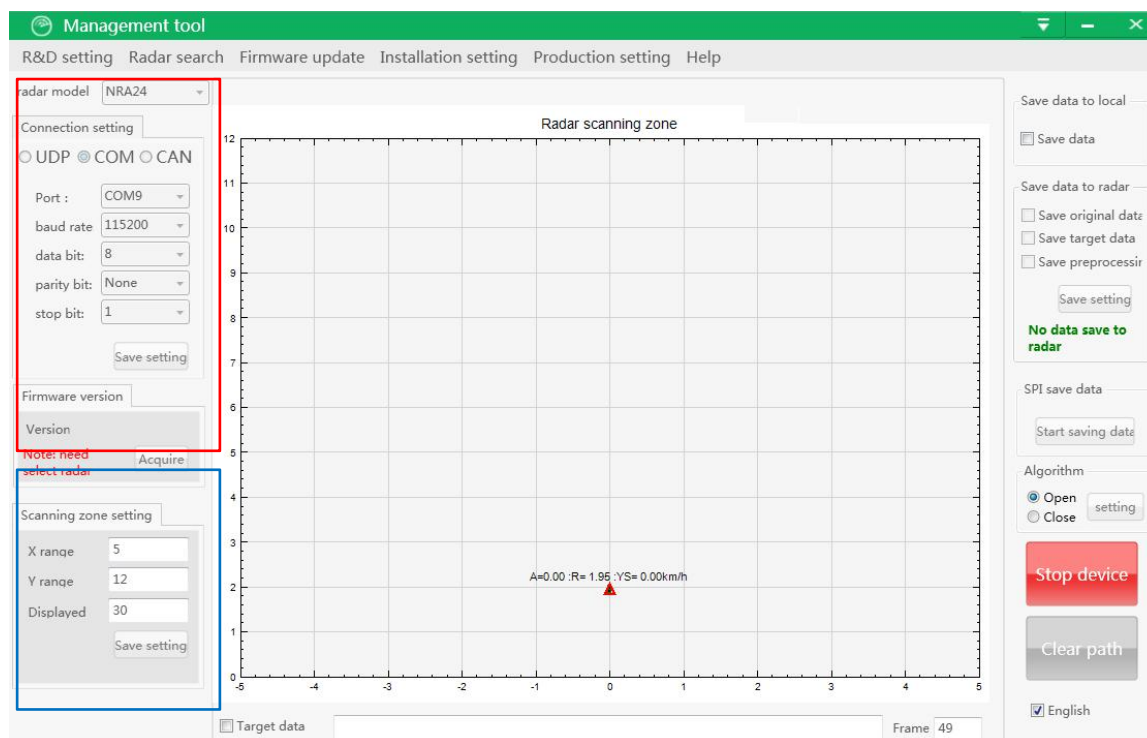

Figure 4 Radar PC test interface
3) USB serial -port adapter is connected to PC. And then open the PC test software to configure parameters like in figure 4 (plug cable into the computer, then open the PC software, the software will automatically detect the port). The red part in the figure is parameter configuration of NRA24, while the blue part is the adjusted coordinate range according to the test distance. Then click the right button "Connect to Device".
4) Start to test. NRA24 radar antenna faces directly to the moving target, or there is relatively small movement between the sensor and the target. You can see the target indicator of the red triangle in the UI interface, and the target distance R. In Figure 4, the radial distance of the target from the radar is 1.95meters (NRA24 could detect the target within 50 meters to ground). If no red triangle is indicated, it states that there is no target within the detectable distance and field of view. The following table shows the relationship between the sensor indicator light and the corresponding indication status: